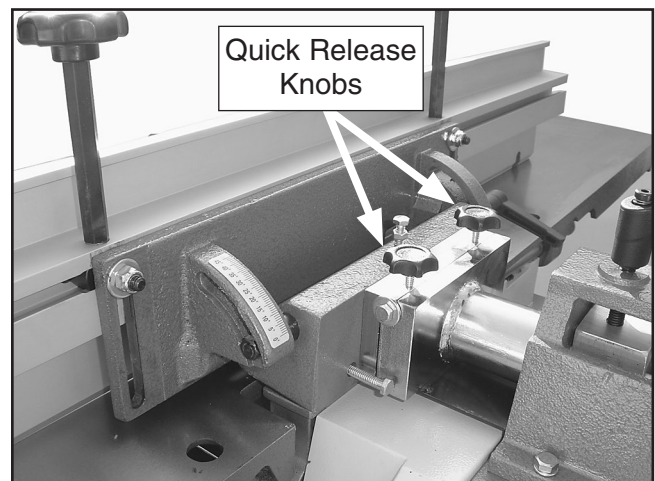

Figure 23. Fence removal.
3. Loosen the quick release knobs (**Figure 23**) and slide the fence off the machine.